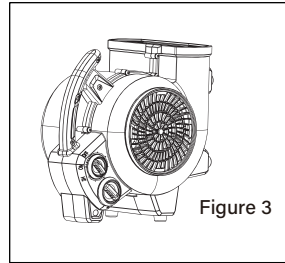

Figure 3
3. Use the up position for applications such as drying paint on the ceiling. To use this position, lay the unit on the back side with the front grill pointing towards the ceiling (Figure3).